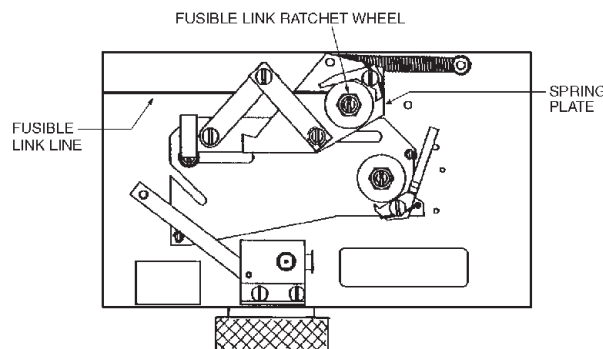

Figure 4-8. Fusible Link Line Termination.
The fusible link line can now be put into a set position by applying tension to the fusible link line. This is accomplished by using a 1/2 in. hex wrench on the fusible link line ratchet wheel. The ratchet wheel will be ratcheted in a clockwise direction until the spring plate makes contact with the top of the control head box. The fusible link line is now in a set position. See **Figure 4-8**.
► by using a 1/2 in. hex wrench on the fusible link line ratchet wheel. The ratchet wheel will be ratcheted in a clockwise direction until the spring plate makes contact with the top of the control head box. The fusible link line is now in a set position. See **Figure 4-8**.